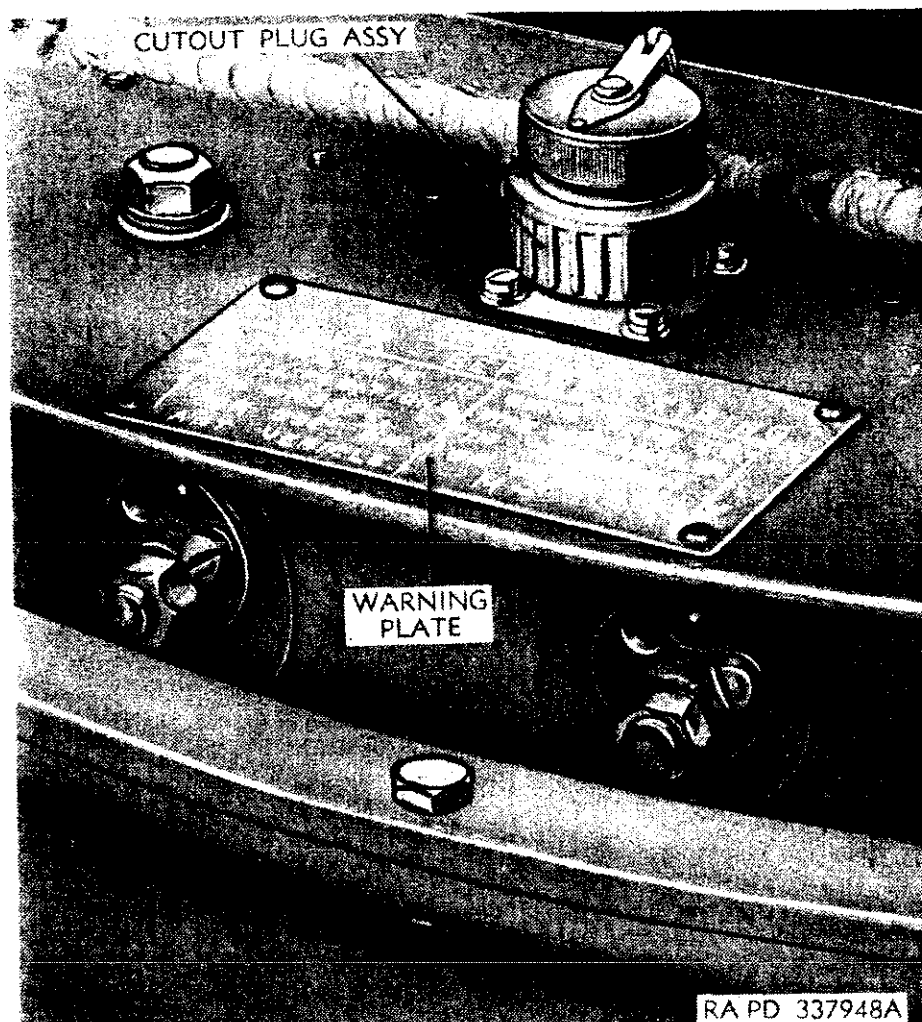

Figure 16. Cutout plug assembly warning plate.
- (4) *Cutout plug assembly.* A plate located on the turntable near the cutout plug assembly (fig. 16) warns to check position of the cutout before firing so that the interrupter switches are engaged when mount is on a vehicle with cab area in line of fire.